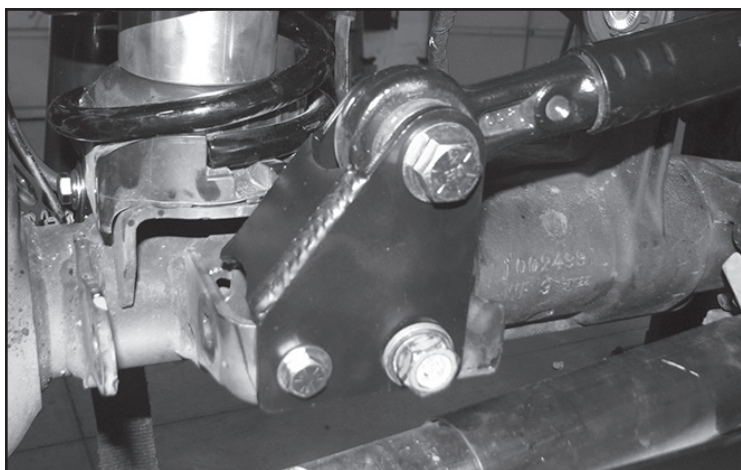

FIGURE 4 - STEP 19
5. Re-install the track bar to the new bracket using the supplied 9/16" X 3" bolt, nut and washers. Torque to 153 ft-lbs. **SEE FIGURE 4**